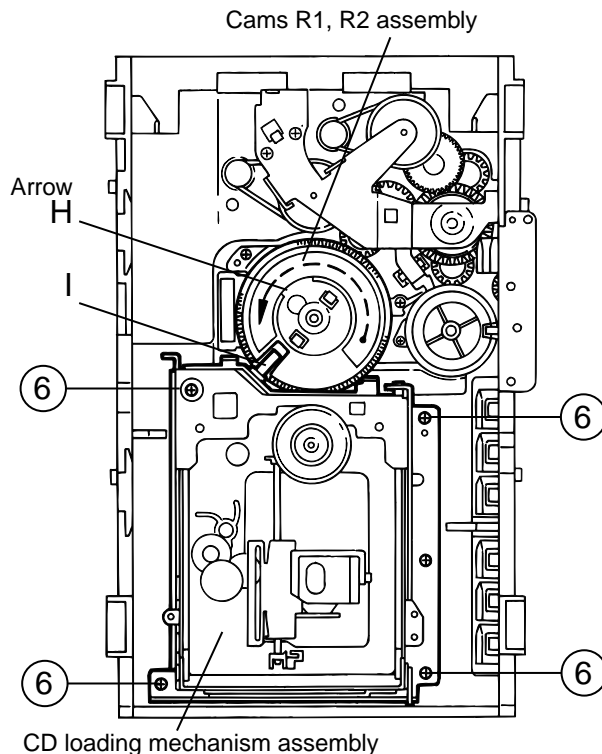

Fig.10
**Removing the CD loading mechanism assembly(See Fig.10)**
1. While turning the cams R1 and R2 assembly in the arrow direction "H" , align the shaft "I" of the CD loading mechanism assembly to the position shown in 2. Fig.10.